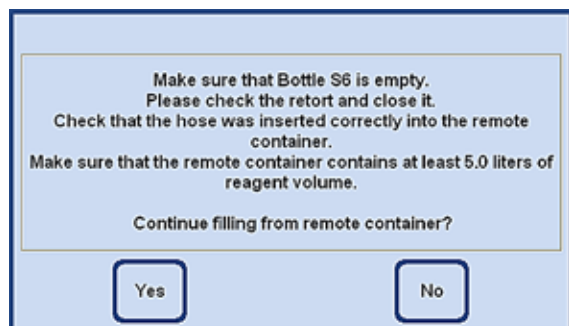

Fig. 170
- When everything is finished, press **YES** to start filling (Fig. 170).